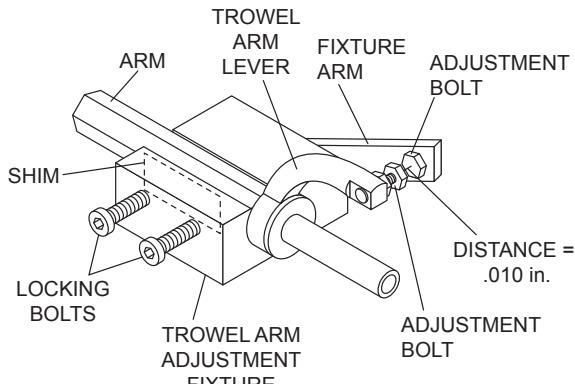

Figure 50. Trowel Arm Adjustment Fixture Components
3. Unscrew the locking bolts on the adjustment tool and place the trowel arm into the fixture channel as shown in Figure 50. A thin shim may be required to cover the blade holes on the trowel arm. Make sure to align the trowel adjustment bolt with the fixture adjustment bolt.
5. Adjust the bolt "distance" shown in Figure 50 to match one of the arms. The other arms will be adjusted to match this distance.